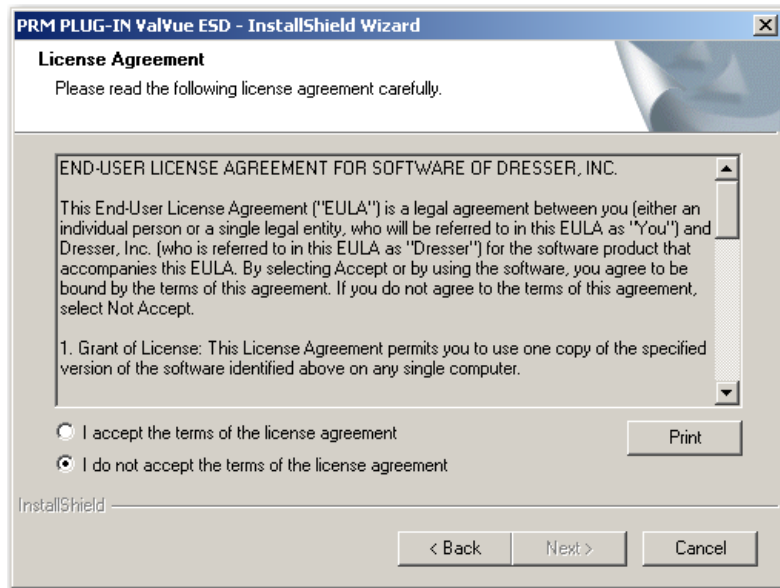

Figure 23 PRM Plug-In License Agreement
5. Click **Next** and the *License Agreement* screen appears (Figure 23).